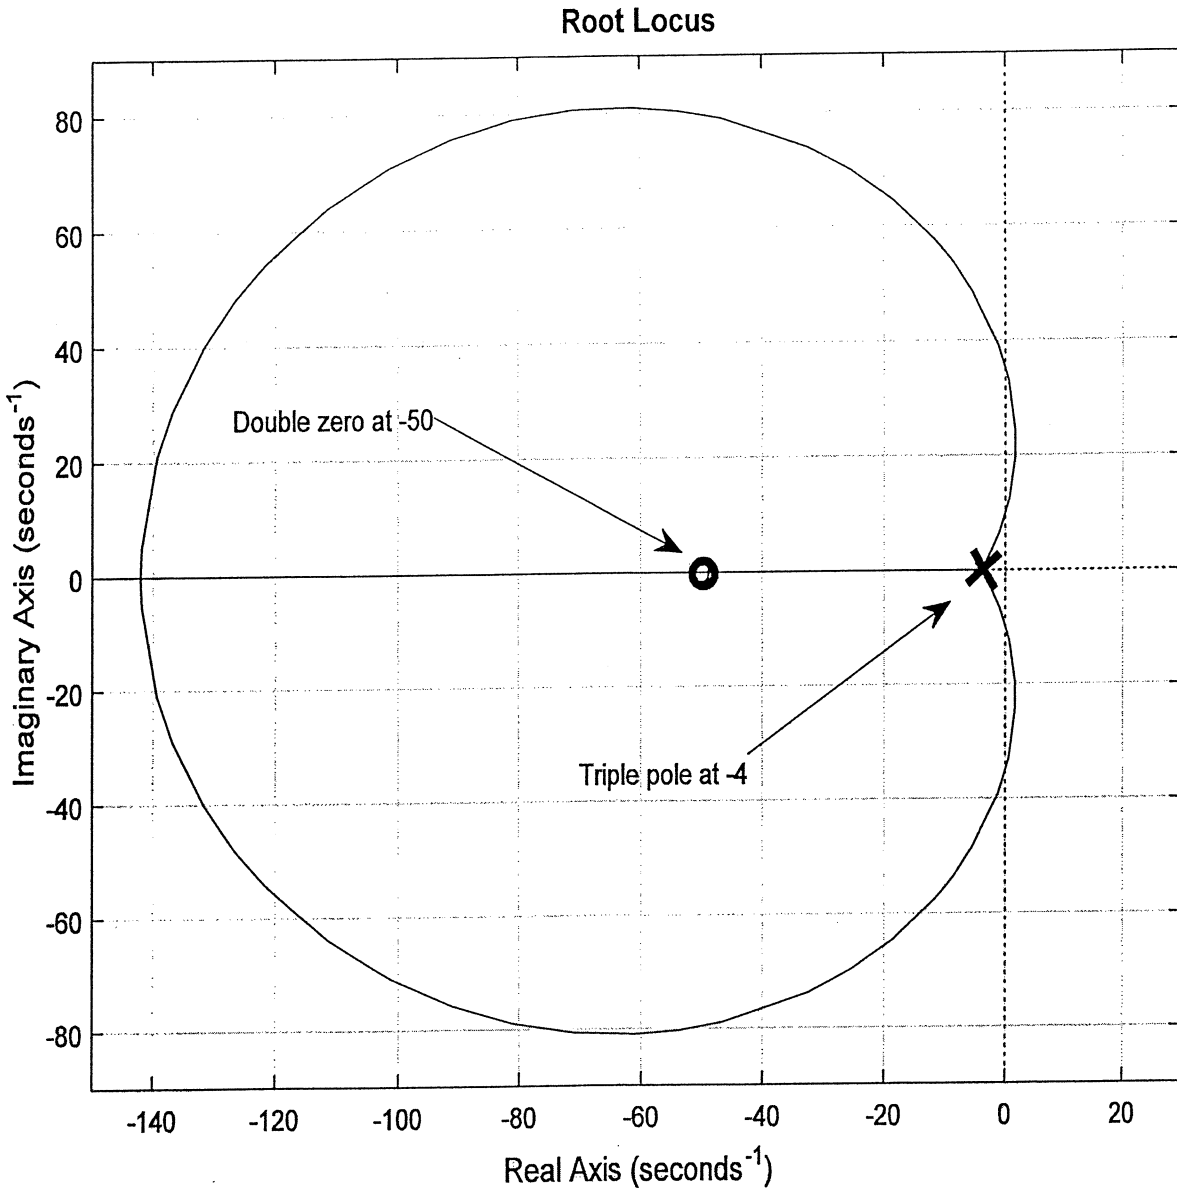

Figure Q2.2 – Root Locus Plot for the System in Question 2
- 1) **(6 marks)** Root Locus sketch for the system in question is provided in Figure Q2.2. Use it to read off the frequency or frequencies (ω_{osc}) corresponding to the crossover(s) of the Root Locus with the Imaginary axis. Next, use the Root Locus Magnitude Criterion (shown below) to determine the corresponding values of critical gains (K_{crit}). Finally, use the Root Locus sketch to interpret the corresponding range or ranges of safe operating gains.